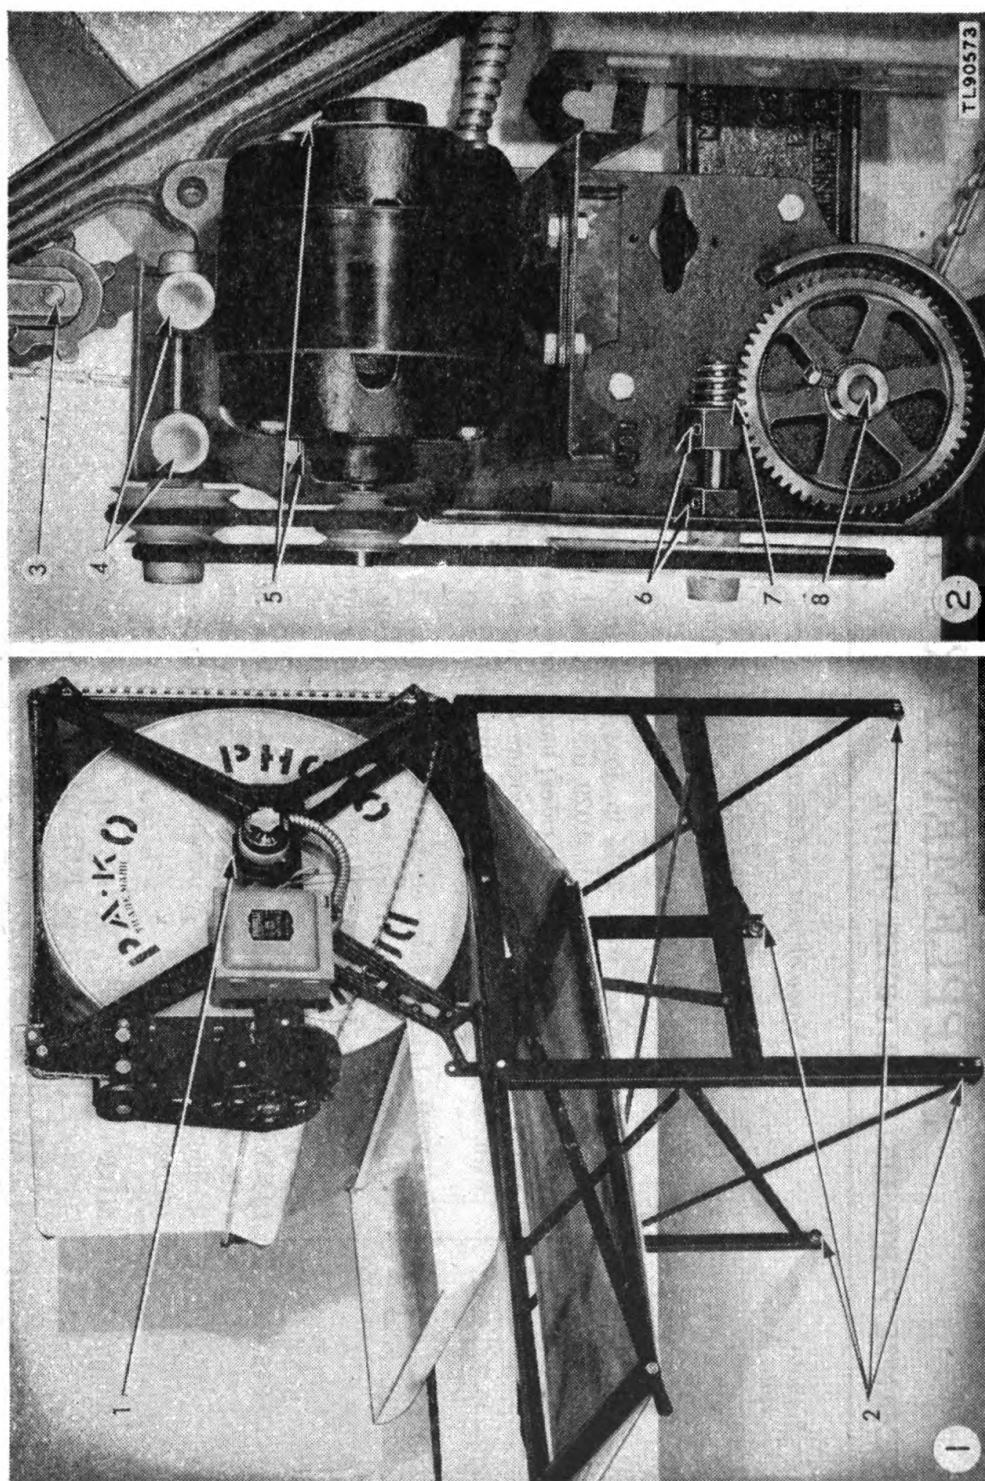

Figure 19. Lubrication points for Dryer PH-176.
**9. LUBRICATION (fig. 19).** The table on the next page shows the frequency of lubrication required for the equipment.